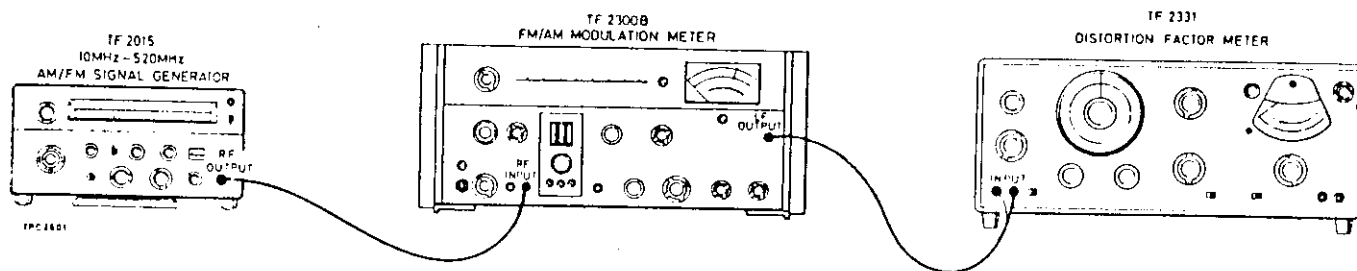

Fig. 4.7 Test gear arrangement to check f.m. and a.m. distortion and f.m. on a.m.
- Connect the test equipment as shown in Fig. 4.7.
- With the test equipment connected as in Fig. 4.7 repeat 4.6.14 (2). Then set the FUNCTION selector at INT FM and the SET MOD control to position the pointer of the MOD/CARRIER meter at the centre of the white box.
1. Connect the test equipment as in Fig. 4.7.